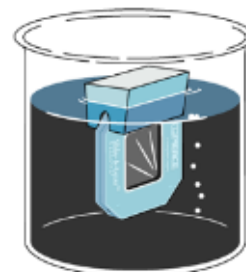

Figure 1. Membrane hydration
2. Immerse cassette in dialysis buffer (Figure 1). Hydrate the 3.5-20K cassettes for 1-2 minutes and the 2K cassettes for at least 2 minutes.